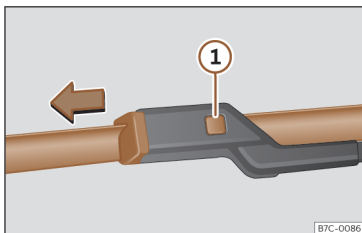

Fig. 211 Changing the windscreen wiper blades
- Press and hold release button >>> **Fig. 211** ① and pull gently on the wiper blade in the direction of the arrow.